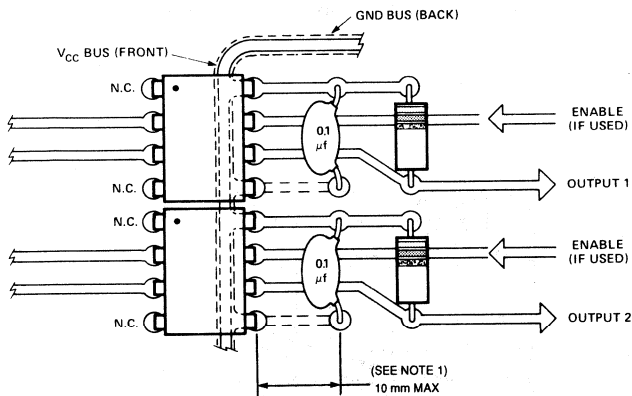

Figure 16. Recommended Printed Circuit Board Layout.
- Bypassing of the power supply line is required, with a $0.1\ \mu\text{F}$ ceramic disc capacitor adjacent to each optocoupler as illustrated in Figure 16. Total lead length between both ends of the capacitor and the isolator pins should not exceed 10 mm.